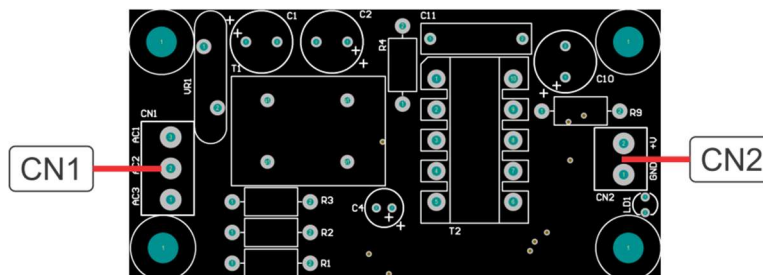

Figura 58: E250B – Conversor AC/DC
6.4.3 Conversor AC/DC, placa E250B, Figura 58.